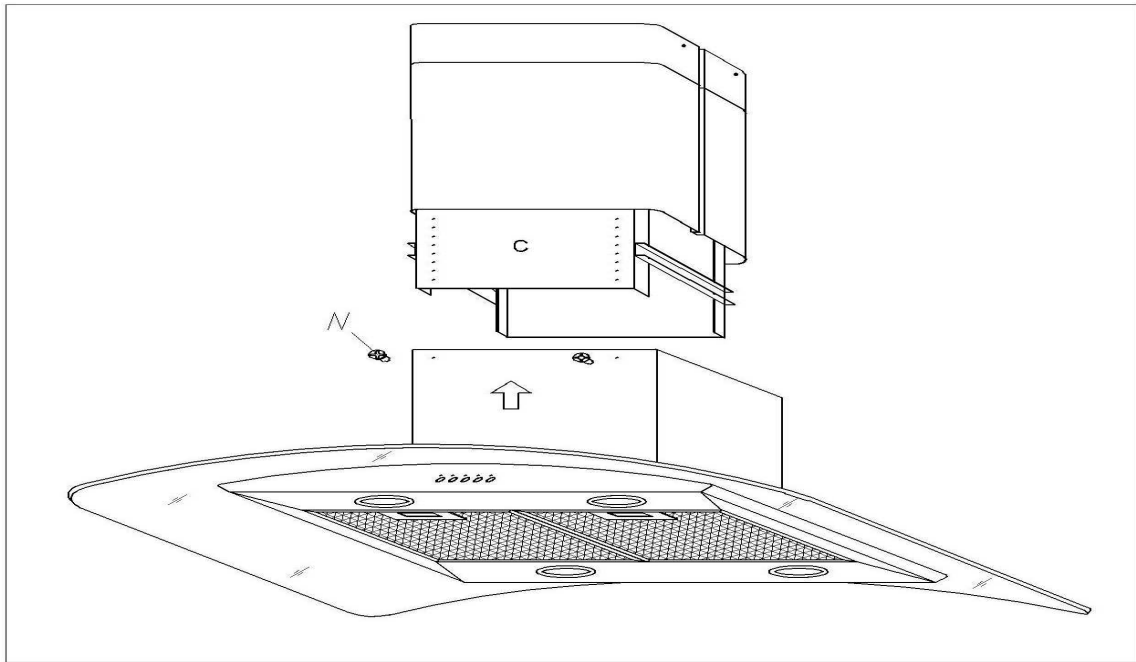

Fig.9
11. Insert the suction unit inside the structure and set in 4 mounting hole, drive in 4 screws **N** (Fig.9).